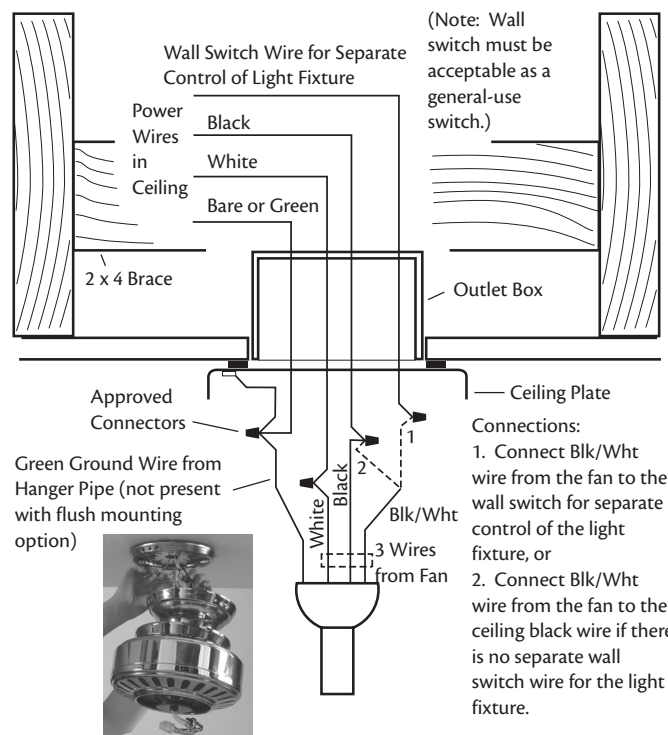

Figure 15 - Wiring the fan
2. You can use either one or two wall switches to control the fan and/or lights separately. Use connection 1, as described in Figure 15, to
Use connection 2, as described in Figure 15, if there is no separate wall switch power wire for the light fixture.
3. Connect the wires as shown in Figure 15. To connect the wires, twist the bare metal leads together. Place a wire nut over the intertwined length of wire and twist clockwise until tight as.